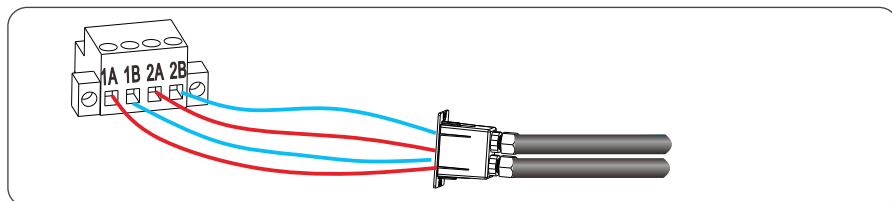

Figure 5.19 RS485 Terminal block connection
Step 4 Connect RS485 differential positive and negative signal of data logger to terminal 1A and 1B of inverter, and connect terminal 2A and 2B of the inverter to terminal 1A and 1B of another inverter. Figure 5.19.